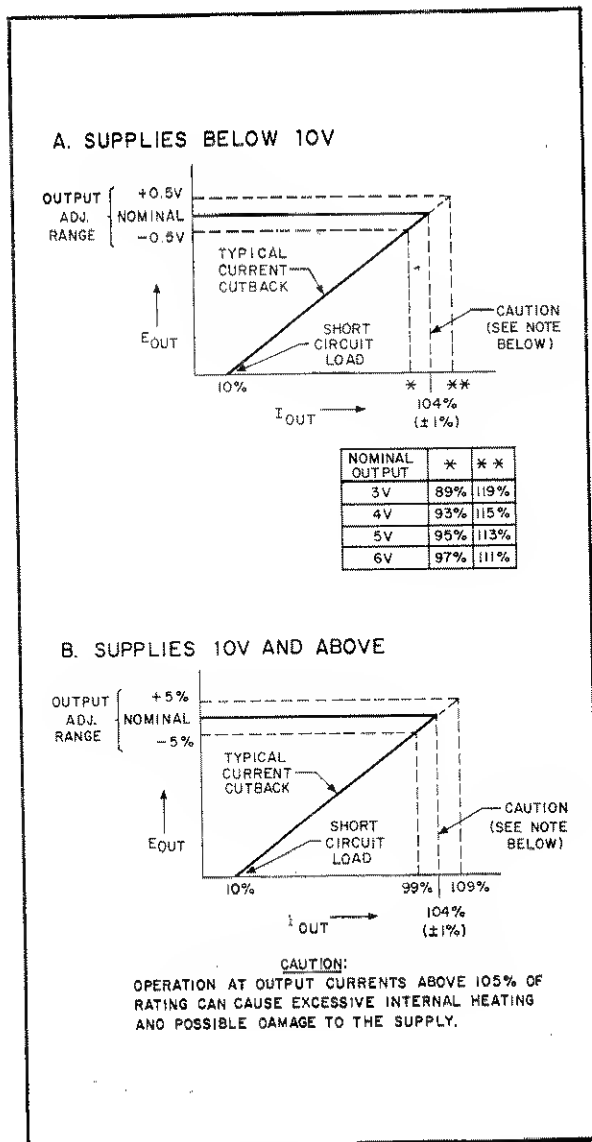

Figure 3-2. Typical Current Limiting Characteristics
3-8 Figure 3-2 shows typical current limiting characteristics for all HP modular supplies. As indicated on the drawing, the current limit point varies in accordance with the output voltage. As received from the factory, the initial current limit point is set to  $104 \pm 1\%$  of the current rating with the output voltage at its nominal value. This same current limit setting is recommended for all output voltages within the adjustment span because: (1) the current limit crossover point must be at least 3% higher than the maximum expected operating current to prevent performance degradation; and (2) a current limit setting of higher than 105% of rating creates the possibility of excessive internal heating as specified in the caution note of Figure 3-2. Hence, the current limit potentiometer (accessible through a